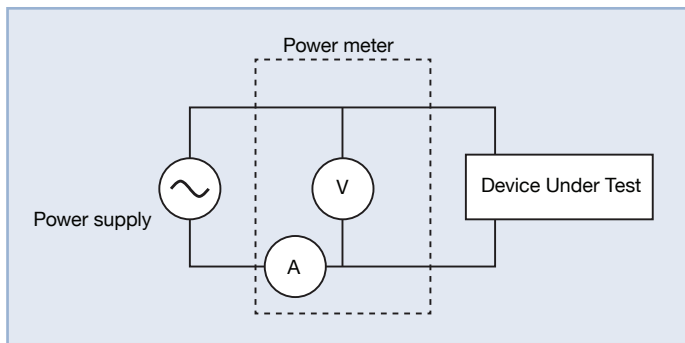

Figure 4. Connection for measuring power in normal mode.
- Keep in mind that for full load measurements, the drop across the current shunt will be relatively higher and the connection diagram shown in Figure 4 should be used.